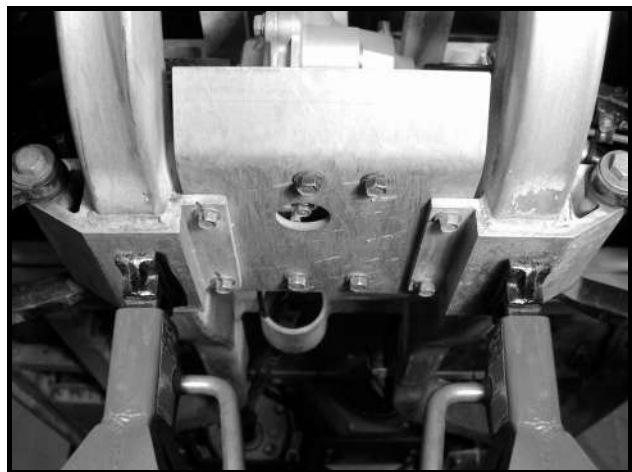

Figure 14-11 Front Differential Plate
10. Remove the four flange-head bolts from the frame support weldments (Figure 14-11, Page 14-5). See following NOTE.
3. Secure the differential plate to the frame support weldments with new flange-head bolts. Tighten the hardware to 23 ft-lb (31 N·m) (**Figure 14-11, Page 14-5**).
4. Secure the differential plate to the frame support weldments with new flange-head bolts. Tighten the hardware to 23 ft-lb (31 N·m) (**Figure 14-11, Page 14-5**).